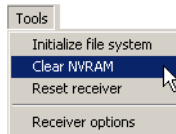

Figure 5-17. Clear NVRAM with PC-CDU
2. Click **Tools** ▶ **Clear NVRAM** (Figure 5-17).